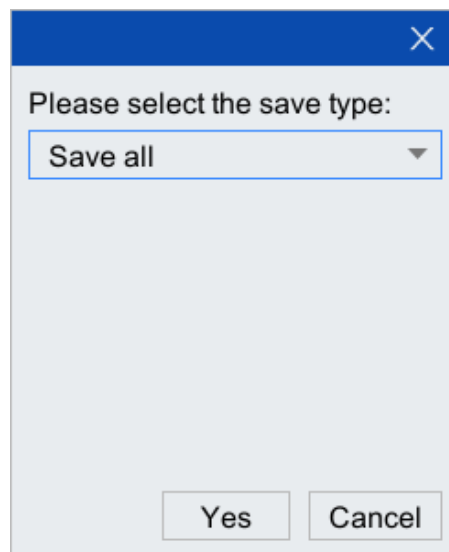

Figure 4-12 Save as type dialog
Step7. After the parameter configuration is completed, click <Save>, and the dialog box shown in Figure 4-12 will pop up. Select "Save all" in [Please select save type], and click <Yes>.